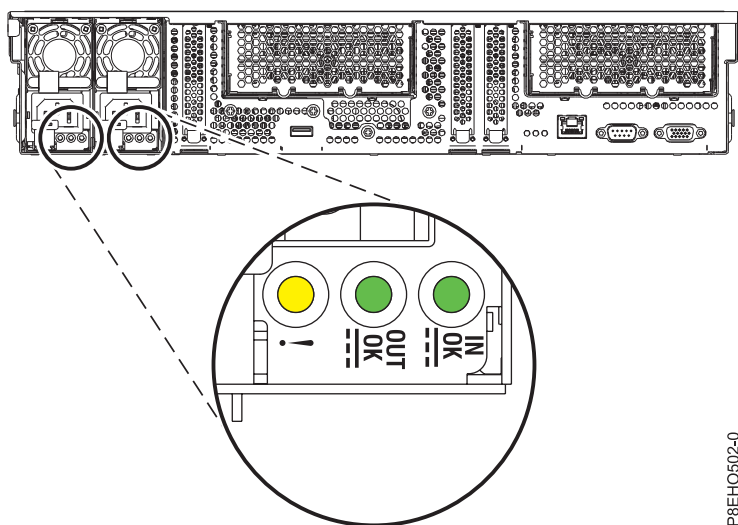

Figure 50. Location of the power supplies and LEDs
5. Locate the light-emitting diodes (LEDs) on the power supplies. Two power supplies are installed in the rear of the system. Figure 50 shows the LED locations.